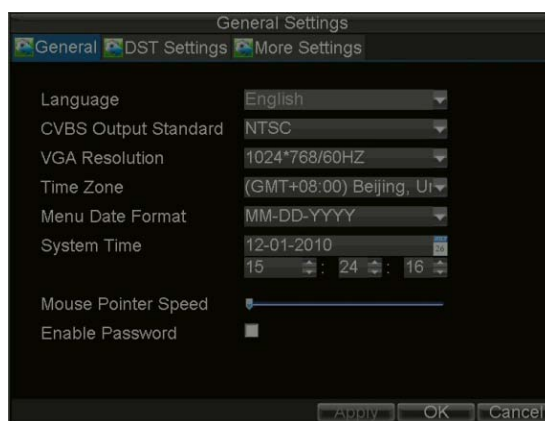

Figure11. General Settings
3. Click the *General* icon. You will be taken to the **General Settings** window, as shown in Figure 11.